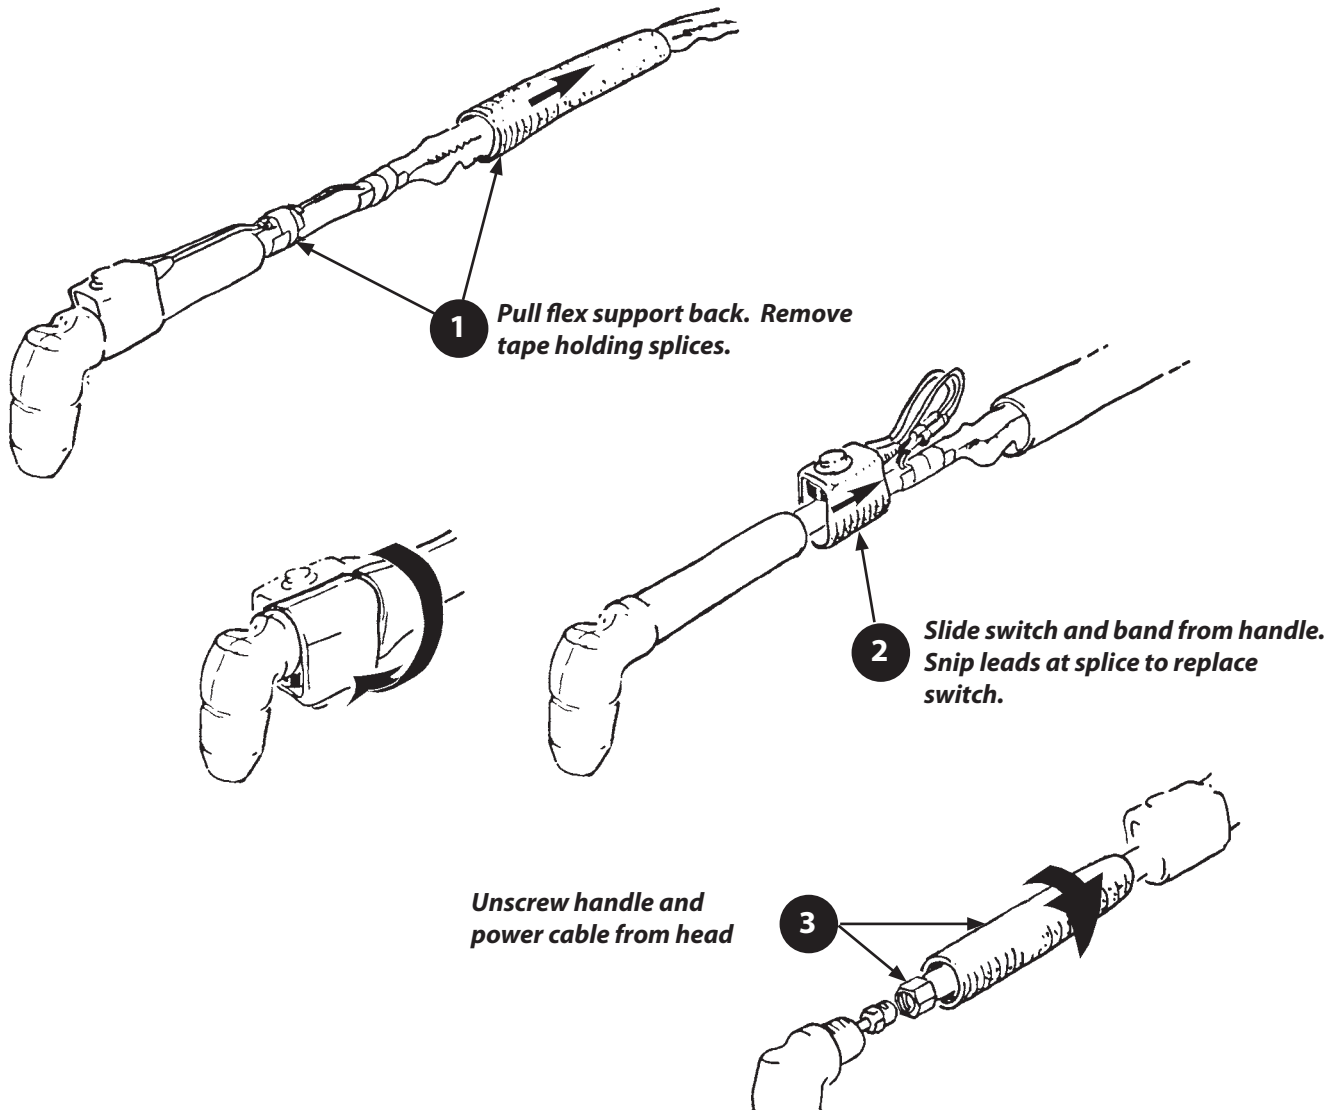

Figure 4-1 Power Cable and Switch Disassembly Sequence
#### 4.1.1 Disassembly of Service Line (refer to Figure 4-1)
8. The leads, switch cord plug, and strain relief can now be removed. See Figure 4-1, Step 3.
To reposition the switch on the torch, slide the flex support back, remove the tape securing the spliced leads to the power cable, reposition switch, retape the leads, and pull the flex support back in place. See Figure 4-1.